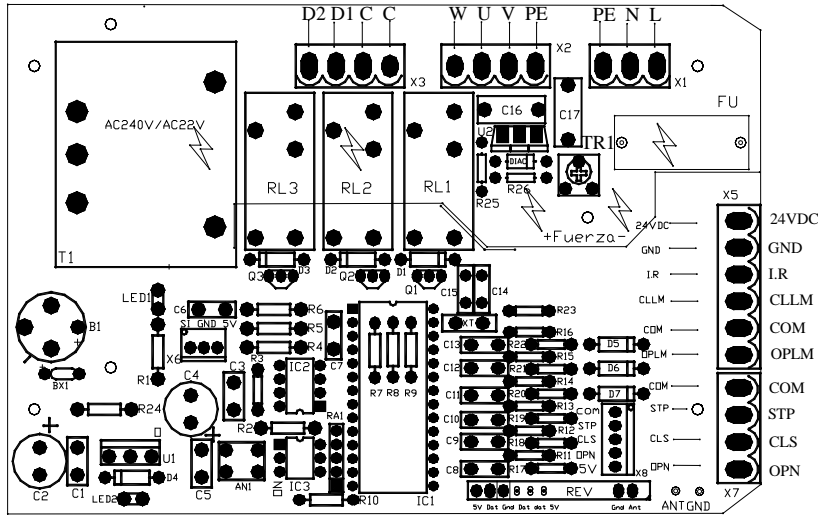

Fig.8
Remove the cover, perform the wiring (See Fig.8 and wiring notes for control board) and replace the cover again.
- **Adding extra remote controls (Learn):** Remove the cover, press the learn button 'AN1' (Fig.8), then the 'LED2' (Fig.8) will be on and turn off, then press the remote control button which you want to use, the 'LED2' will turn on about 2 seconds and then turn off again. The learning process is finished. Up to 25 remote controls may be used.